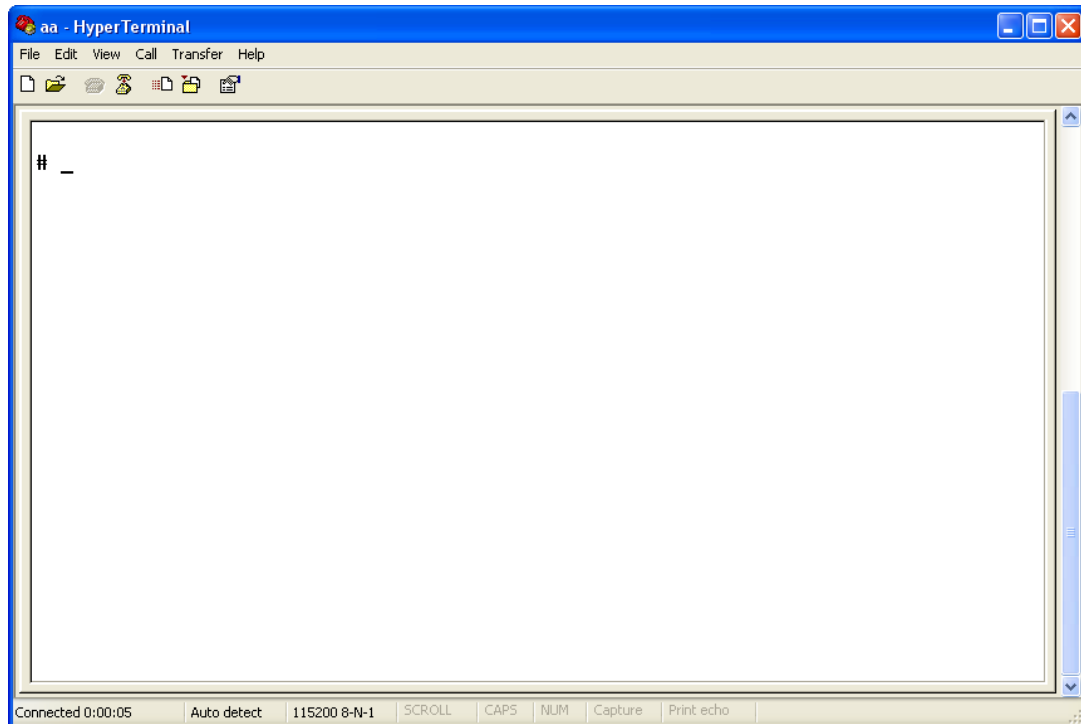

Fig. 3.4 Hyper Terminal Interface
**Step 4:** Serial port parameters setup. Set the serial port parameters as the following setup: Bits per second: 115200, Data bits: 8, Parity: None, Stop bits: 1, Flow control: None. Press “OK” after finish, the Hyper Terminal interface like Fig. 3.4 will appear
**Step 1:** Enter into the Hyper Terminal. Click “Start”→ “Programs”→ “Accessories”→ “Communications”→ “Hyper Terminal”→ “aa.ht”, the Hyper Terminal interface in Fig. 3.4 will appear.